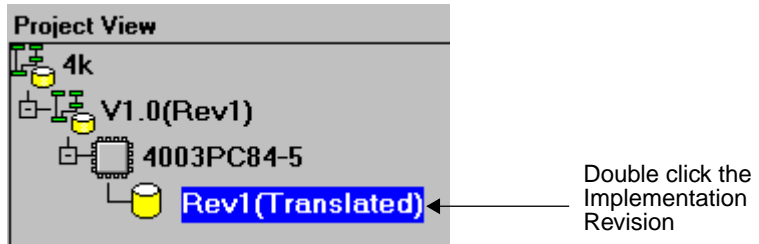

Figure 2-8 Starting the Flow Engine
1. Double click the desired Revision in the Project View (in the Design Manager Main Window). If you have just opened a new project, the implementation revision should look like Figure 2-8.